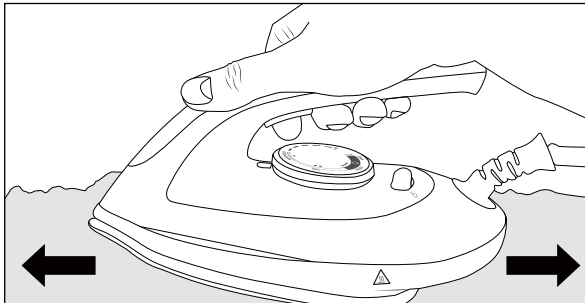

Fig. 2
- ◆ To remove any production residues, iron several times over an old, clean cloth (see fig. 2).